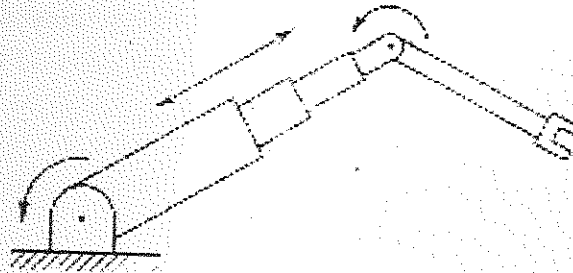

Figure 4
16. (a) Derive the forward kinematic equations for the three-link planar manipular shown in Figure 4 using the Denavit-Hartenberg convention.